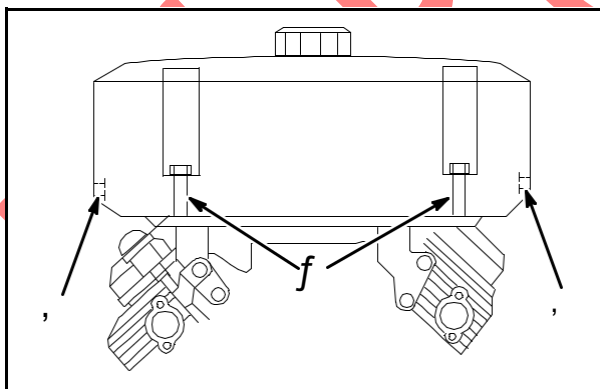

Fig. 6
Connect the fuel line to the carburetor. Install the fuel tank. Torque screws (2) and shoulder bolts (3) (PTO side) to **140 in. lbs. (16 Nm)**, **Fig. 6**.